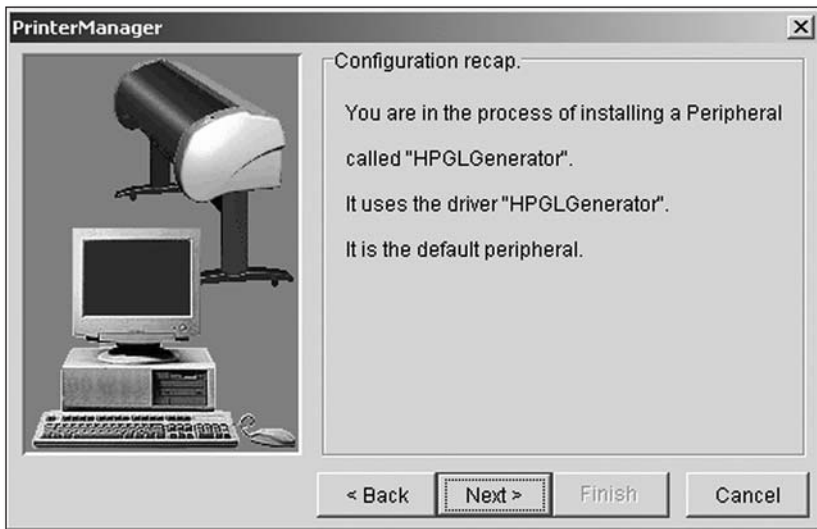

Figure 16. The system will confirm the peripheral name.
4. Click *Next* in the **Summary Window**. A **Configuration Recap Window** will appear. (*Figure 16*).